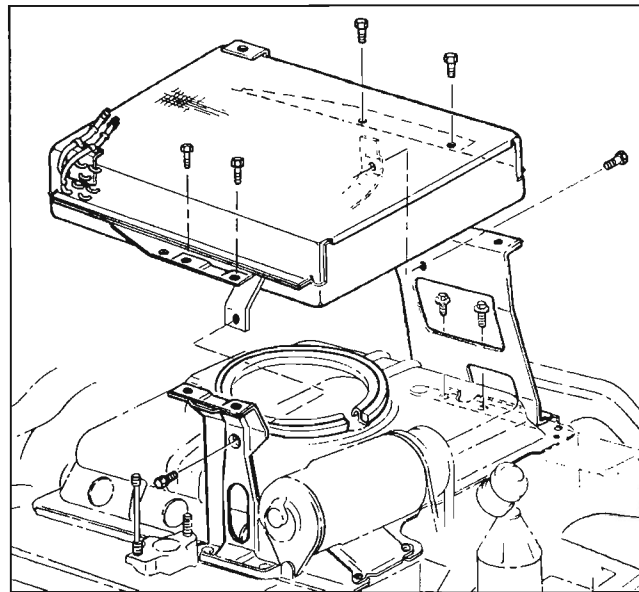

Fig. 9—Condenser Removal
4. Remove the three screws on each side of the condenser which attach the condenser and shroud assembly to the mounting brackets (fig. 9).